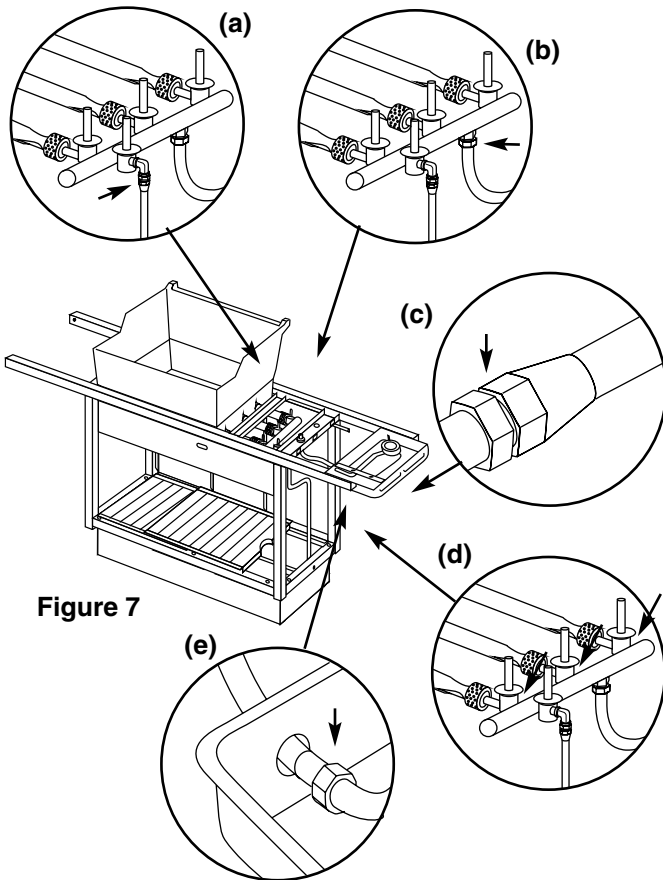

Figure 7
- a) Barbecue gas supply line to FlameCheck valve connection. Figure 7 (a).
- b) Manifold to side burner hose connection. Figure 7 (b).
- c) Barbecue gas supply line to natural gas supply connection. Figure 7(c).
- d) Valves to manifold connections. Figure 7 (d).
- e) Side burner hose to side burner connection. Figure 7 (e).